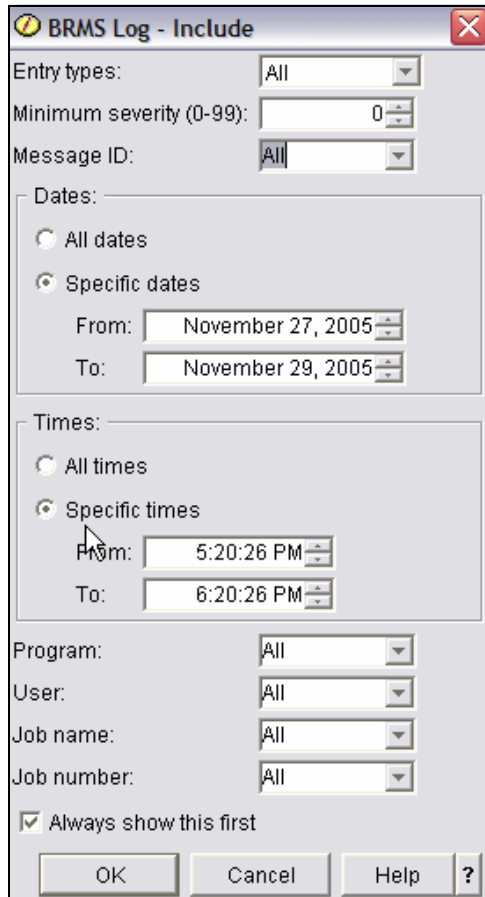

Figure 7-82 BRMS restore - BRMS log includes
2. The BRMS Log - Include window shown in Figure 7-82 on page 406 appears. Input the appropriate date and time range and click **OK**.